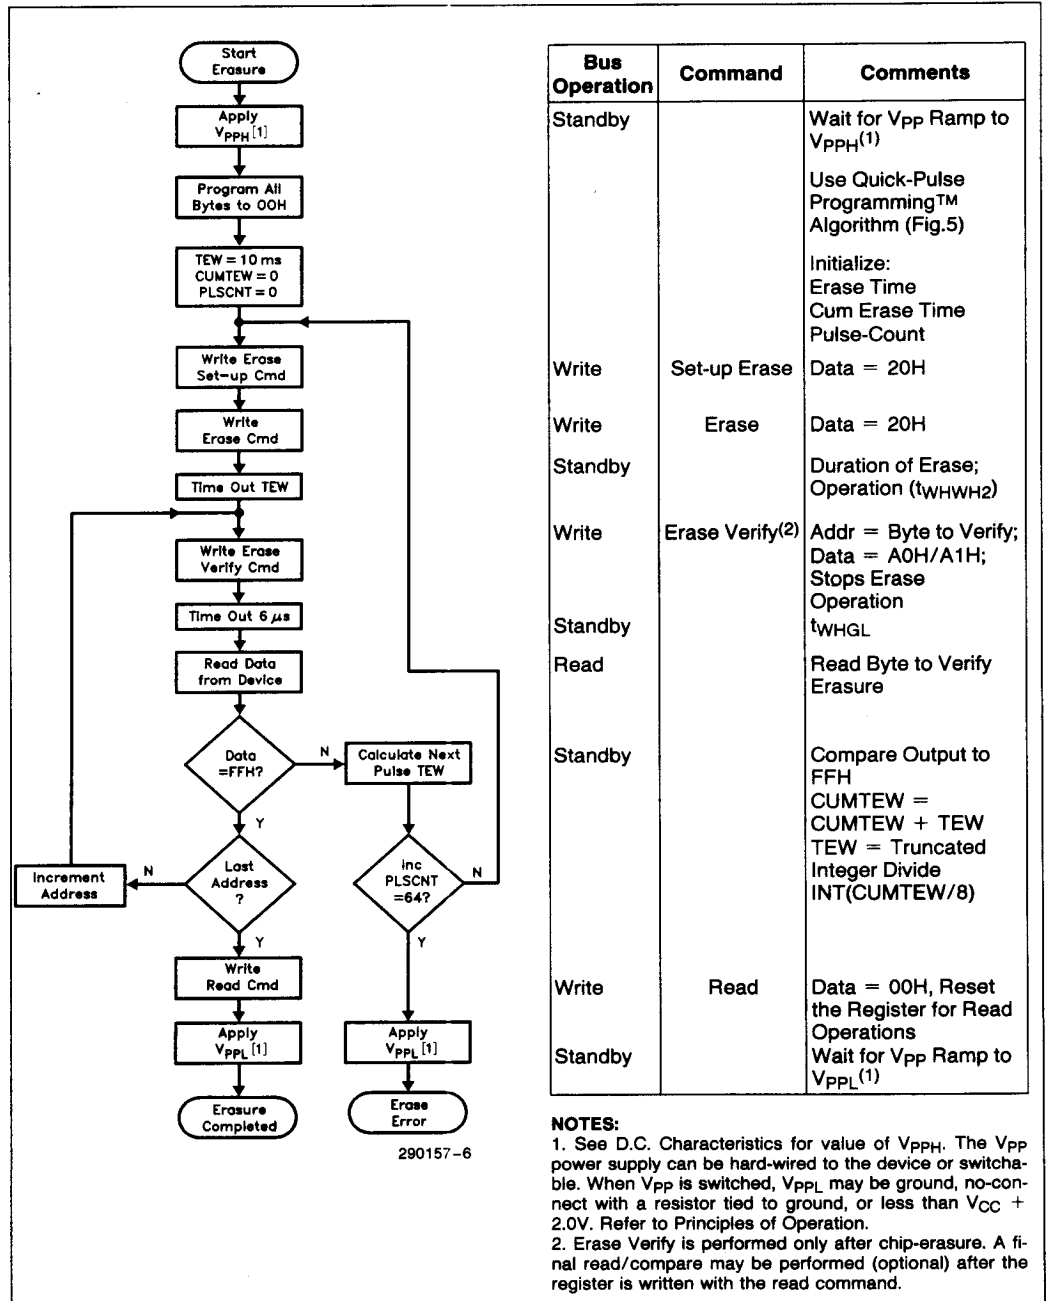

Figure 6. 27F256 Quick-Erase™ Algorithm
- Figure 6 illustrates the Quick-Erase™ Algorithm.
In the case where FFH data is not read, another erase operation is performed. (Refer to Set-up Erase/Erase). Verification then resumes from the address of the last-verified byte. Once all bytes in the array have been verified, the erase step is complete. The device can be programmed. At this point, the verify operation is terminated by writing a valid command (e.g. Program Set-up) to the command register. Figure 6, the Flash-Erase™ Algorithm illustrates how commands and bus operations are combined to perform electrical erasure of the 27F256. Refer to AC Erase Characteristics and Waveforms for specific timing parameters.
Erase execution then continues with an initial erase operation. Erase verification (data = FFH) begins at address 0000H and continues through the array to the last address, or until data other than FFH is encountered. With each erase operation, an increasing number of bytes verify to the erased state. Erase efficiency may be improved by storing the address of the last byte verified in a register. Following the next erase operation, verification starts at that stored address location. A total of sixty-four erase operations are allowed, which corresponds to approximately ten seconds of cumulative erase time. Erasure typically occurs in one second. Figure 6 illustrates the Quick-Erase Algorithm.